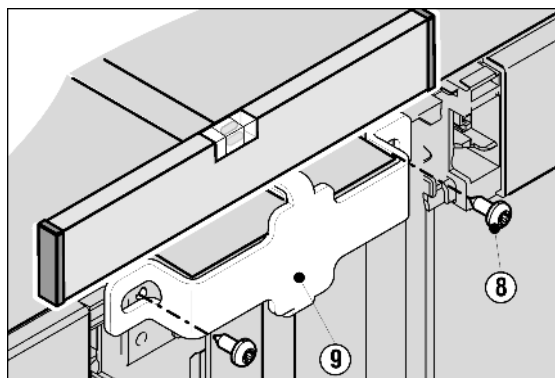

Fig. 5
- ▶ Press the appliances together and realign them and as you do so, using the screws Fig. 5 (8), screw on the large mounting bracket Fig. 5 (9). Possibly make preliminary holes with a bradawl or use a cordless screwdriver.